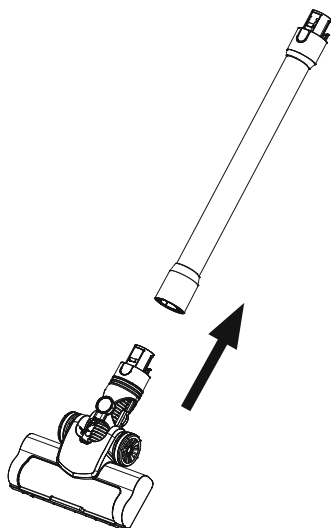

Fig. 2
2. Attach the floor brush (13) to the other end of the extension tube (15) (see Fig. 2).